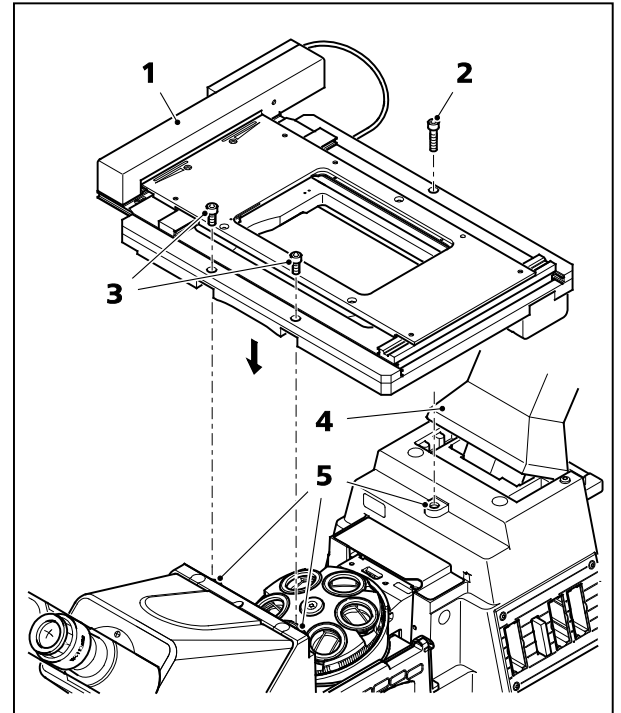

Fig. 26 Fitting the scanning stage 130x100 STEP
- To improve access during stage assembly, the carrier for transmitted-light illumination (Fig. 26/4) (if fitted) can be tilted backwards.
- Place the scanning stage 130x100 STEP (Fig. 26/1) on the three contact points (Fig. 26/5) of the stand and fix it in position using three Allen screws (two at the front (Fig. 26/3), one at the rear (Fig. 26/2)).